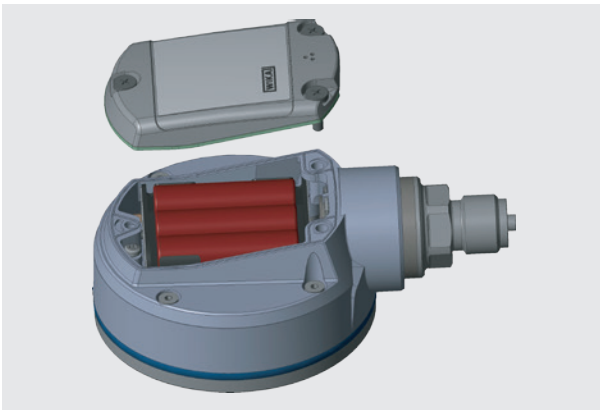

Fig. 1 - Position of the battery compartment
2. Loosen the three screws of the battery compartment, see Fig. 1 “Position of the battery compartment”.